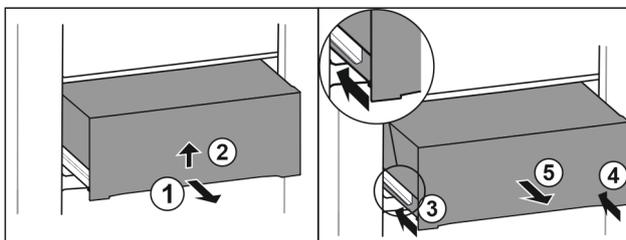

Fig. 50
- Pull out drawer half-way. Fig. 50 (1)
- Lift the drawer from the bottom. Fig. 50 (2)
- Insert left rail. Fig. 50 (3)
- Insert right rail. Fig. 50 (4)
- Remove drawer to the front. Fig. 50 (5)